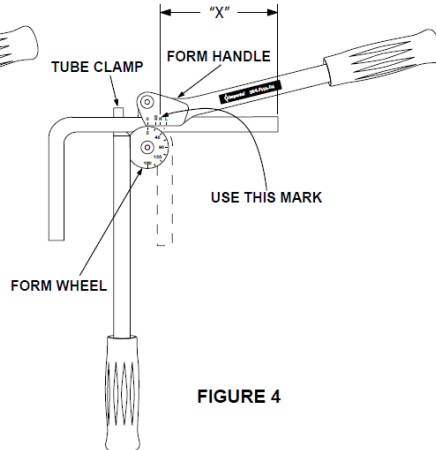

FIGURE 4
3. If the end from which you measured is placed to the right of the tube clamp, set the mark on the tube directly over graduation "R" located on the form lever and shown in Fig. 4. With a steady motion, pull form handle around until the "0" mark on form handle is directly opposite the 90° mark on form wheel.